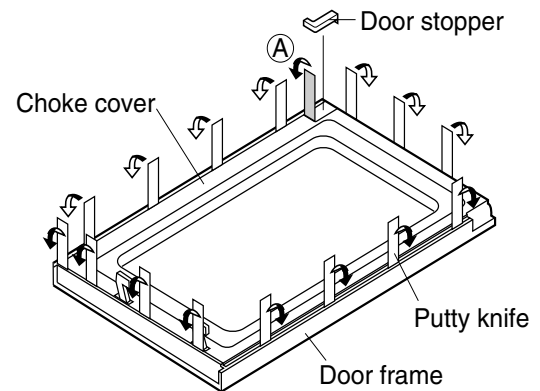

Figure C-3. Door Disassembly
4. Remove the three (3) screws holding the hood exhaust louver to the oven cavity front face plate.
6. Insert a putty knife (thickness of about 0.5mm) into the gap Δ between the door stopper and the choke cover as shown in Figure C-3 to free engaging parts.
8. Insert a putty knife (thickness of about 0.5mm) into the gap A between the choke cover and door stopper and between the choke cover and the door frame as shown Figure C-3 to free engaging parts.
9. Pry the choke cover by inserting a putty knife in order shown in Figure C-3.